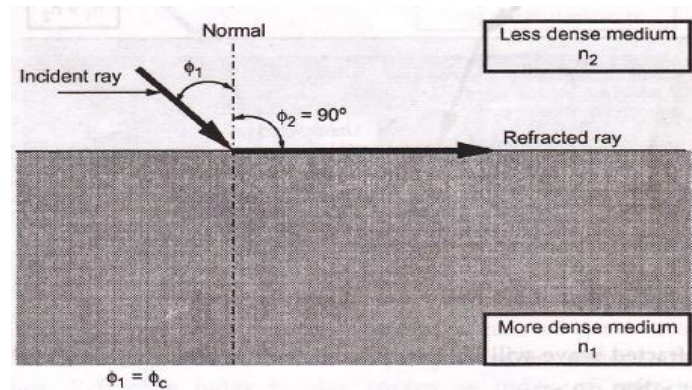

Fig.1.6.5 Critical Angle
- The **critical angle** is defined as the minimum angle of incidence (ϕ_1) at which the ray strikes the interface of two media and causes an angle of refraction (ϕ_2) equal to 90° . Fig 1.6.5 shows critical angle refraction.